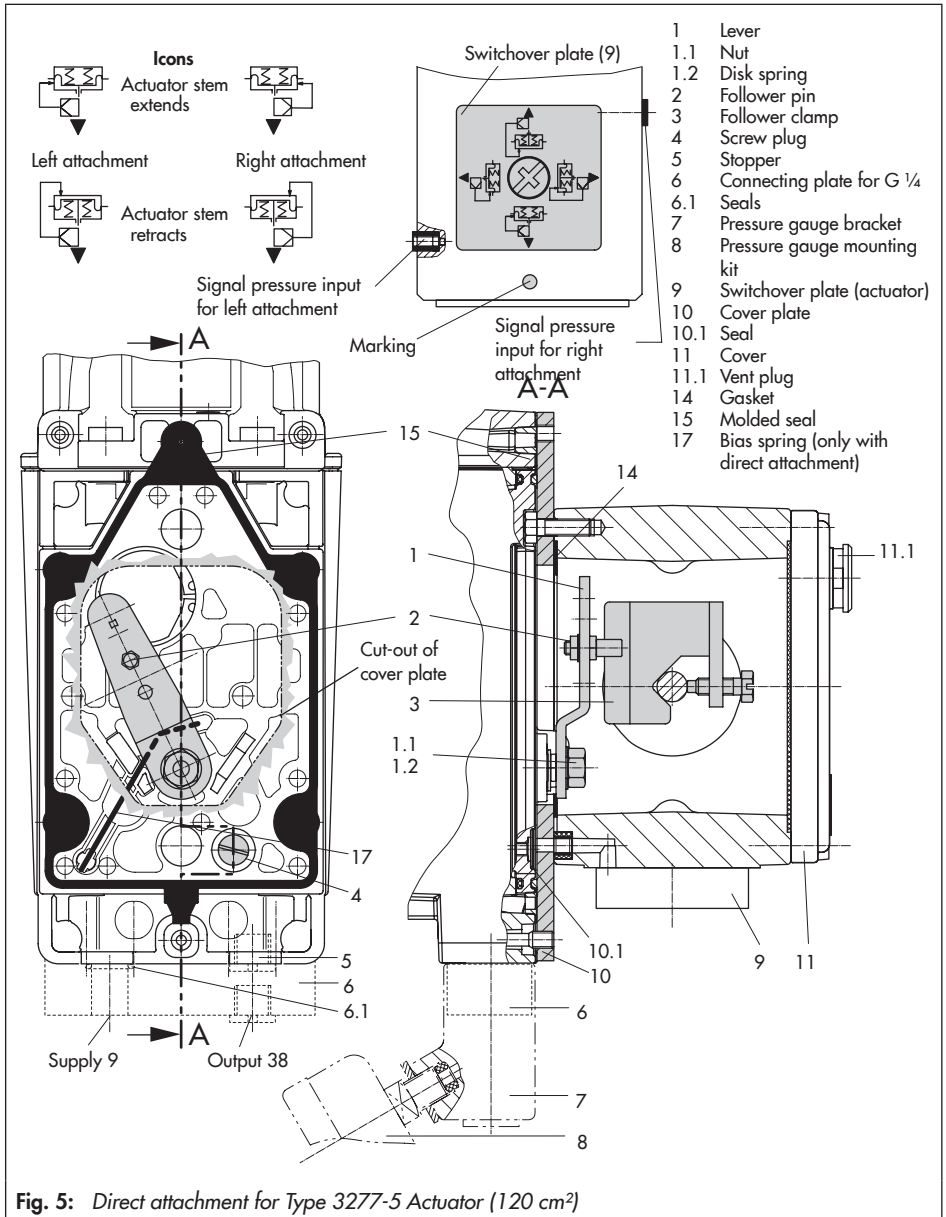

Fig. 5: Direct attachment for Type 3277-5 Actuator (120 cm²)
1. Refer to Fig. 5 to select the symbol to match the required fail-safe position and how the positioner is attached:
4. Remove screw plug (4) on the back of the positioner and seal the signal pressure output (38) at the positioner (or at the pressure gauge bracket (7) or connecting plate (6)) with the stopper (5) included in the accessories.
5. Place follower clamp (3) on the actuator stem, align it and screw tight so that the mounting screw is located in the groove of the actuator stem.
6. Mount cover plate (10) with narrow side of the cut-out (Fig. 5, on the left) pointing towards the signal pressure connection. Make sure that the gasket (14) points towards the actuator yoke.
7. **15 mm travel:** keep the follower pin (2) on the M lever (1) on the back of the positioner in the pin position 35 (delivered state).